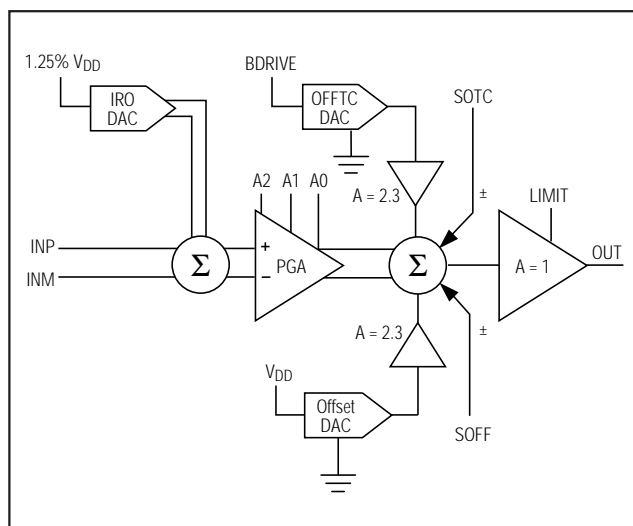

Figure 2. Signal-Path Block Diagram
VBDRIVE that must be added to the output summing junction to correct the error. Use the Offset TC DAC to adjust the amount of BDRIVE voltage that is added to the output summing junction (Figure 2).
- Differential to single-ended output buffer (Figure 2)